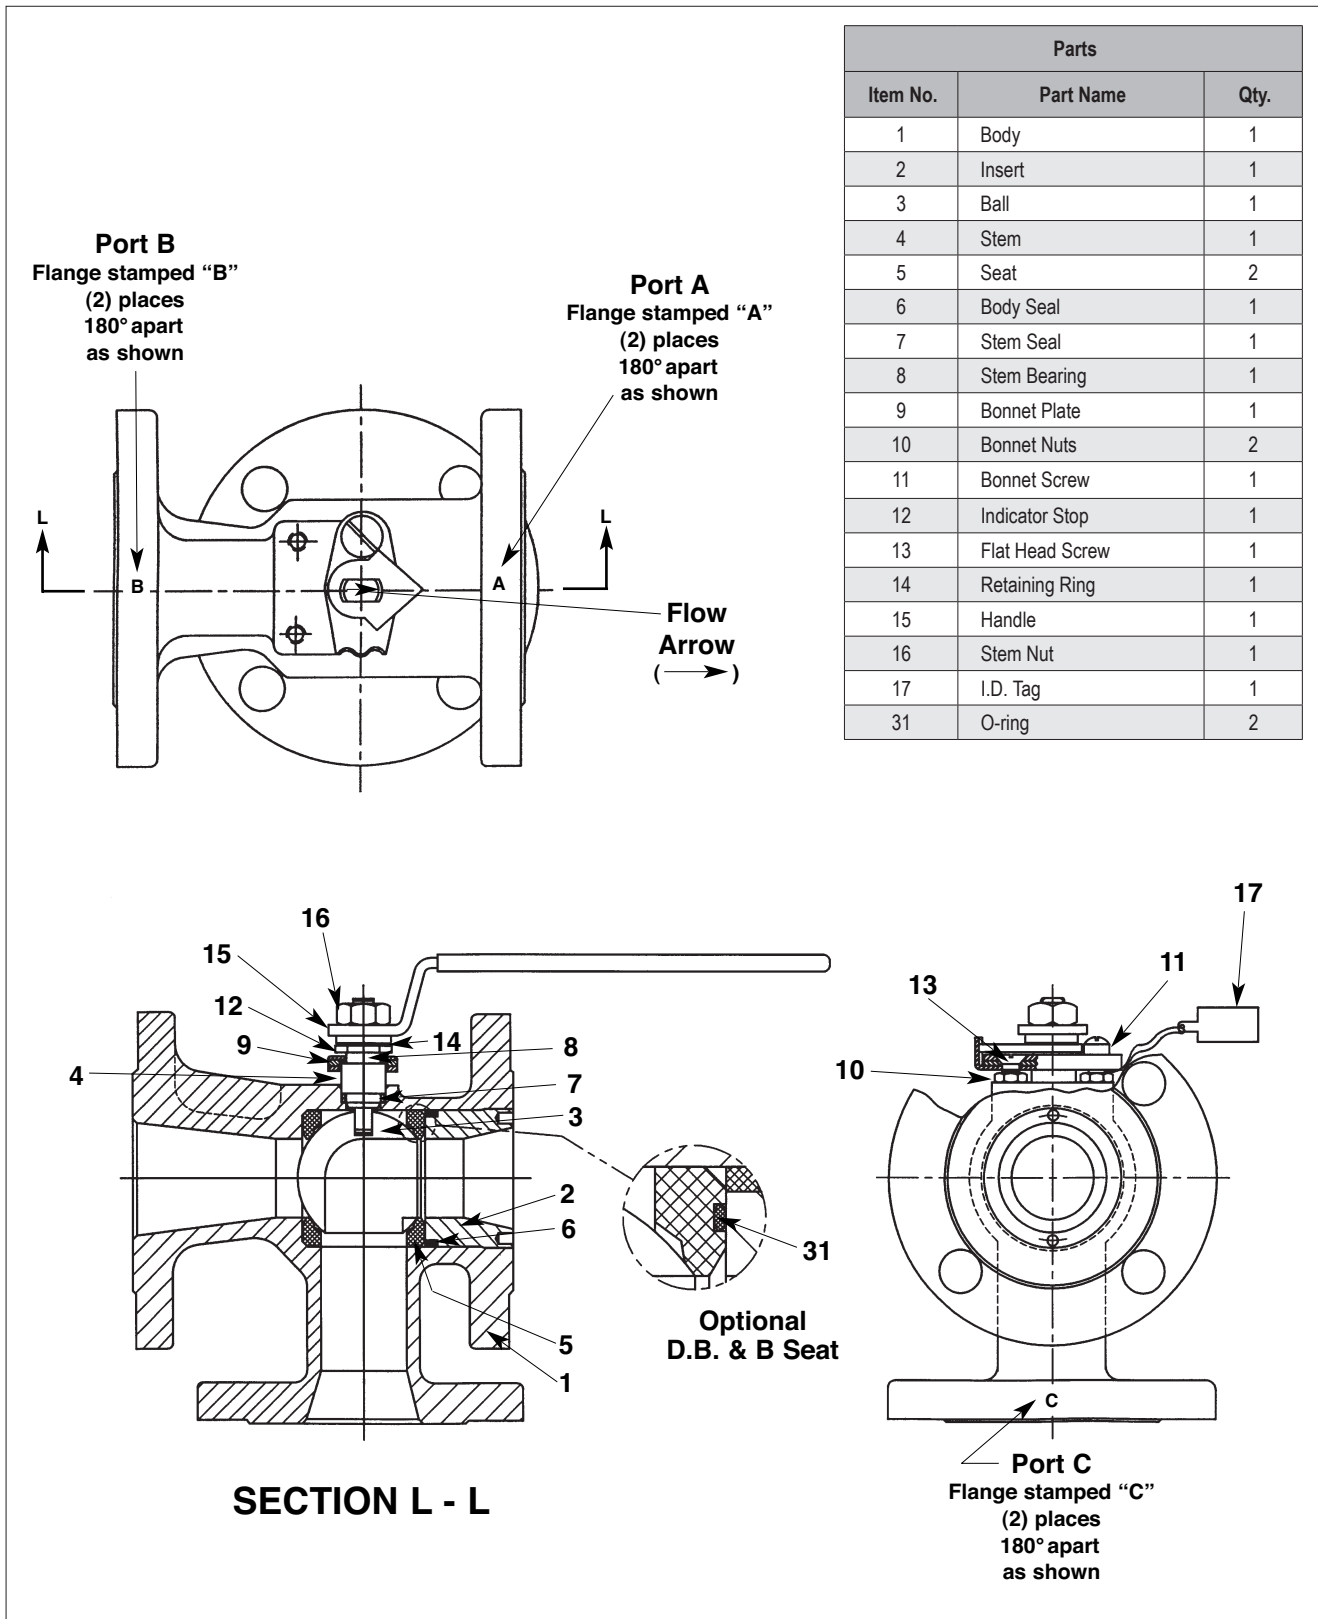

Figure 6.
The top of the stem contains a flow arrow. From step 2, the ball was left with the ball ports “A” and “B” closed. Assemble the stem so that with port “A” on your right the arrow is pointing towards you, parallel to the “A” and “B” flange on the body. This indicates that the valve ball is closed to ports “A” and “B” and open to the “C” port, (See **Figure 6**).
Place the machine screw (13) through the bonnet plate hole nearest the bent up portion of the plate and then put the remaining screw (11) in the other hole. Screw the bonnet nuts (10) onto the bonnet screws, 2/3 of the screws' length. Replace the *Jamesbury* tag around screw (11). With the body's “A” port on your right, place the machine screw (13) into the bottom bonnet hole and remaining screw (11) in the top hole, (See **Figure 6**). Tighten the bonnet plate down with the screws until the screw heads make contact with the plate, then tighten another ¼ turn. Tighten the bonnet nuts (10) until the contact the bonnet face. Place the indicator stop (12) over the stem with the pointed part set into the bonnet plate slot.
12. Attach the handle (15) and secure it with the stem nut (16).